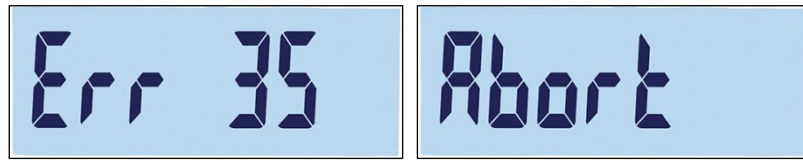

Figure 3-17: Linearity Calibration Error and Abort Messages
- If the scale is not stable after 30 seconds, it will time out and display an error code “Error 35” (Figure 3-17, left). This message will display for 2 seconds, and then the terminal will return to the last operation. Either reload the weight, or press  to cancel the process. If calibration is cancelled, “Abort” (Figure 3-17, right) will display briefly, calibration will end, and the F1.3.3 screen will reappear.
- To abort the process without saving the previous parameters, press the power button  during the calibration. “Abort” (Figure 3-17, right) will appear briefly. Calibration is suspended, the former parameters aren’t saved, and the display returns to the F1.3.3 screen.